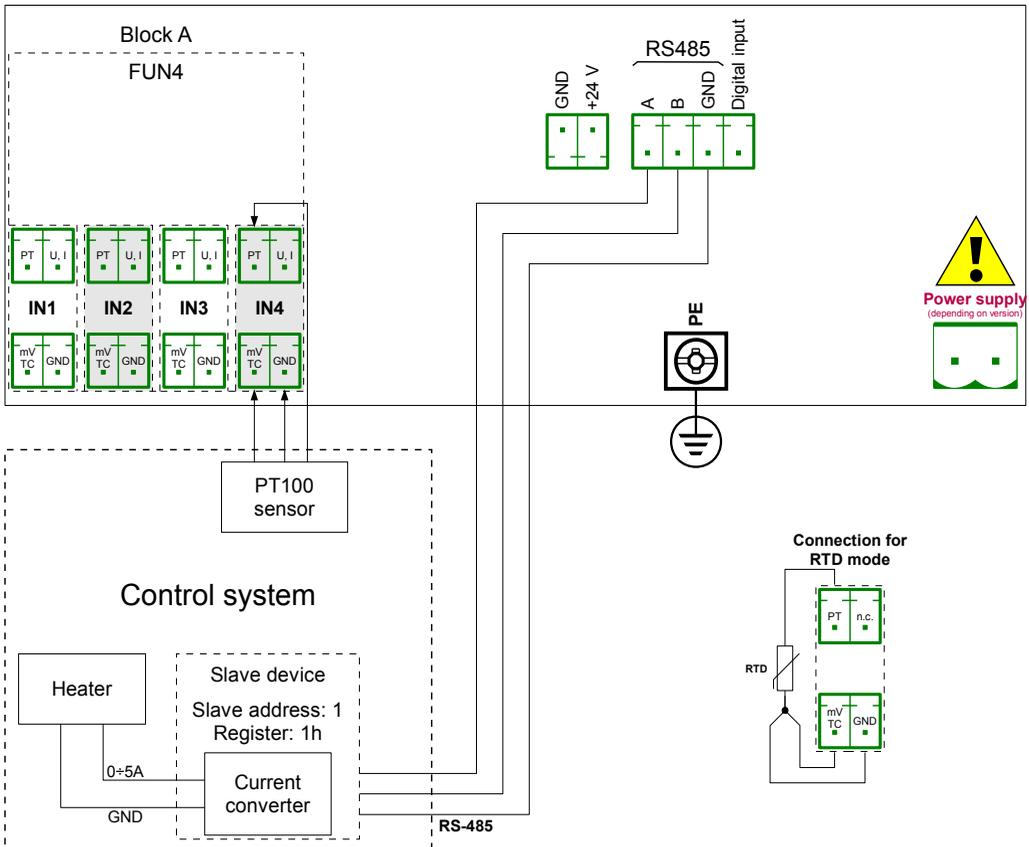

Fig. 7.74. Schematic diagram for the hardware configuration FUN4 and MB1 Modbus port
Before measuring and regulating the temperature, the user should configure the device as follows and then connect the RTD sensor and the Current converter to the device. An example of the connection is shown in **Fig. 7.74.**
- **Source** parameters set as **Inp.A4: Universal** (see Fig. 7.74),
- **Precision** parameters set as **0.00** , because with this precision we can send a signal from the controller to the Current converter (see Fig. 7.74),